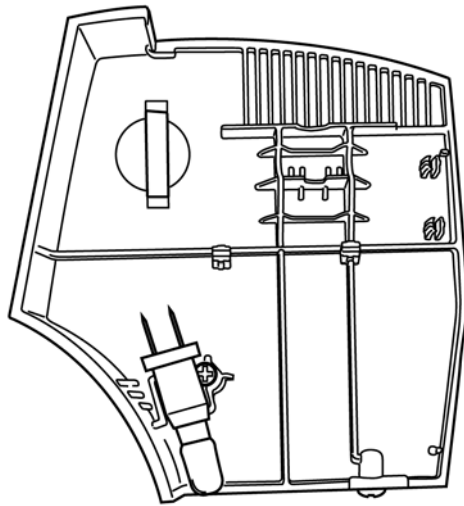

Fig. 3
- Remove the complete face plate together with the sewing lamp and cable (fig. 3).
- Unhook spring 3 (fig. 3).